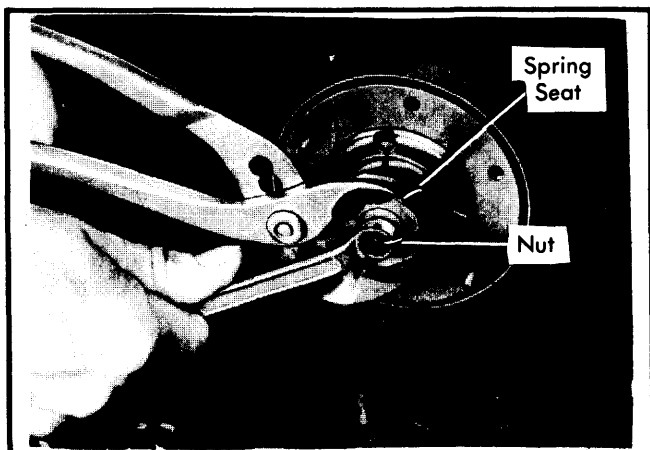

Fig. 2 Adjusting Charge Pressure Regulator
4) To adjust charge pressure, disconnect exhaust line from the charge pressure regulator and remove its diaphragm housing cover. See Fig. 2. Loosen the lock nut, using a 10 mm spanner wrench. Grip the spring seat with adjustable pliers.